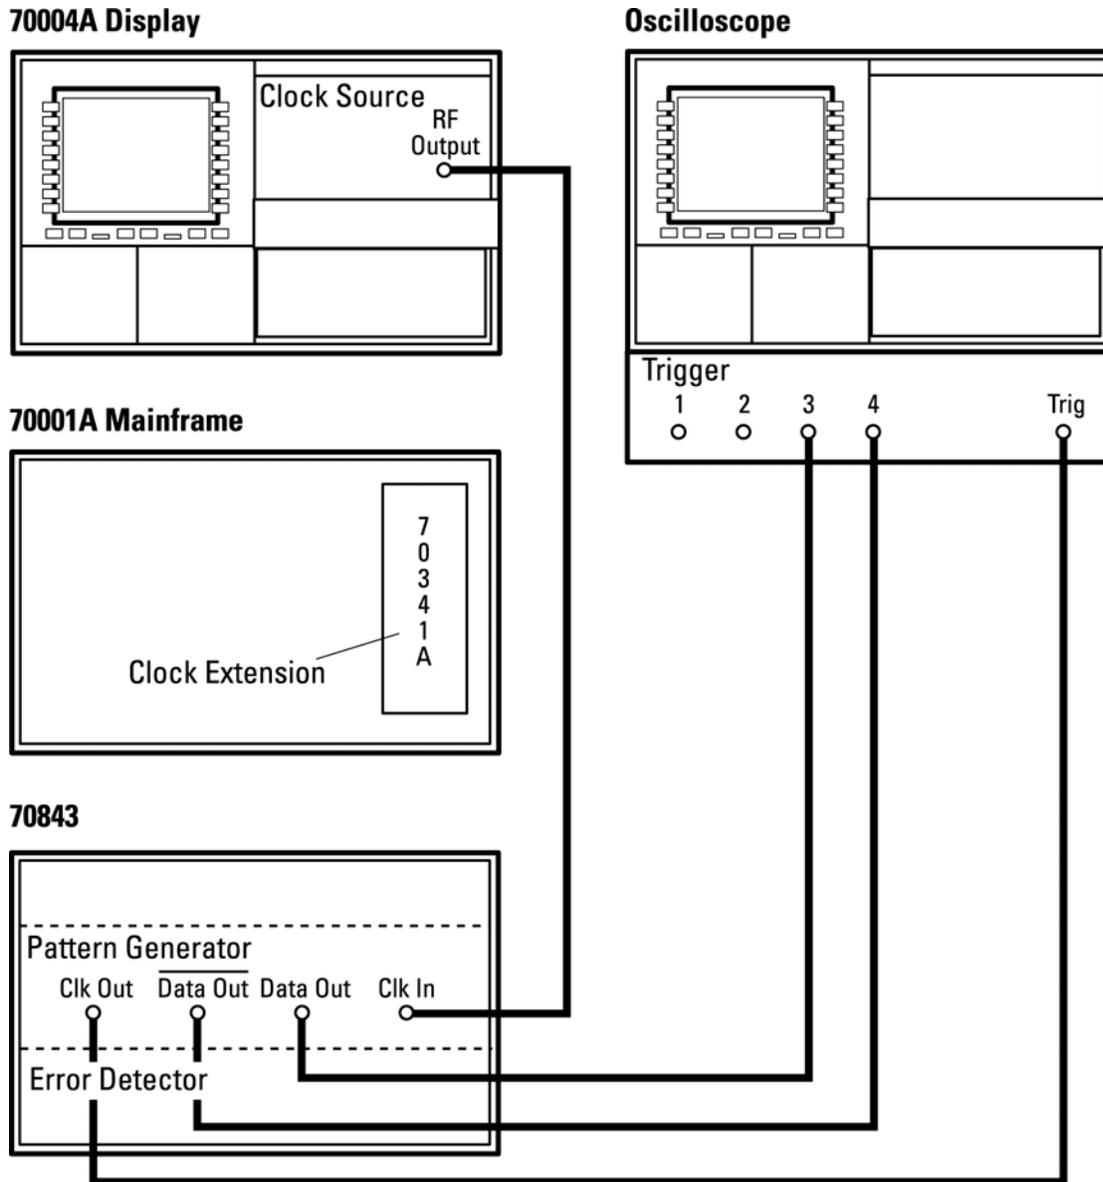

Figure 11-6
1. Connect the system as shown in Figure 11-6.